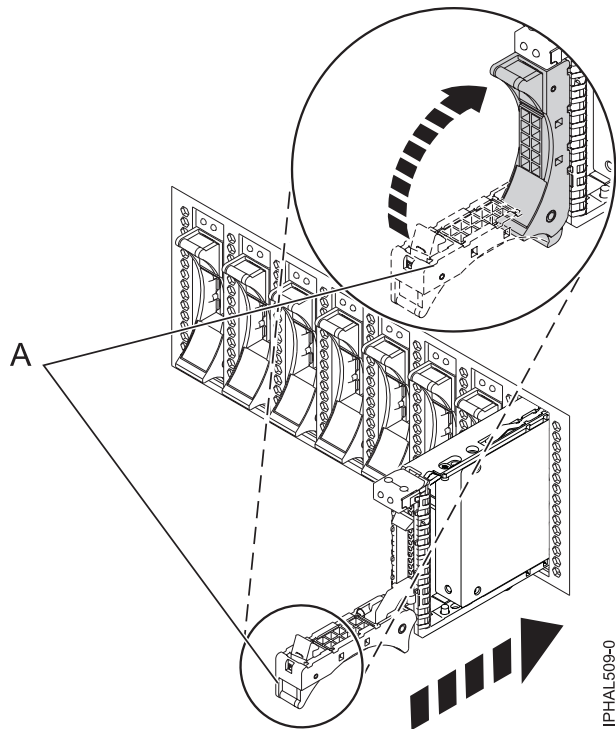

Figure 22. Replacing a disk drive in the system
- When the identify LED turns on solid, slide the disk drive or solid-state drive all the way into the system or an expansion unit, and push the drive handle (A) in until it locks, as shown in Figure 22.